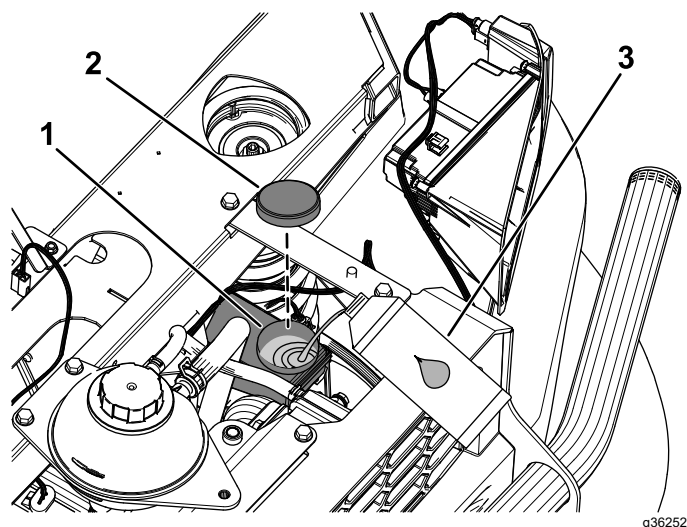

Figure 127
4. Raise the hood to access to the master brake cylinder and reservoir (Figure 127).
- A. Clean the area around the reservoir cap and remove the cap (Figure 127).
- C. Install the reservoir cap (Figure 127).